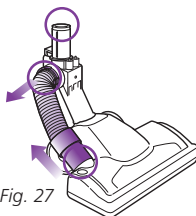

Fig. 27
- Detach the hose on the motorized floor brush at the top by squeezing the tabs together and pulling out, and at the bottom by pulling out the connector. Inspect inside the 3 holes. (Fig. 27)